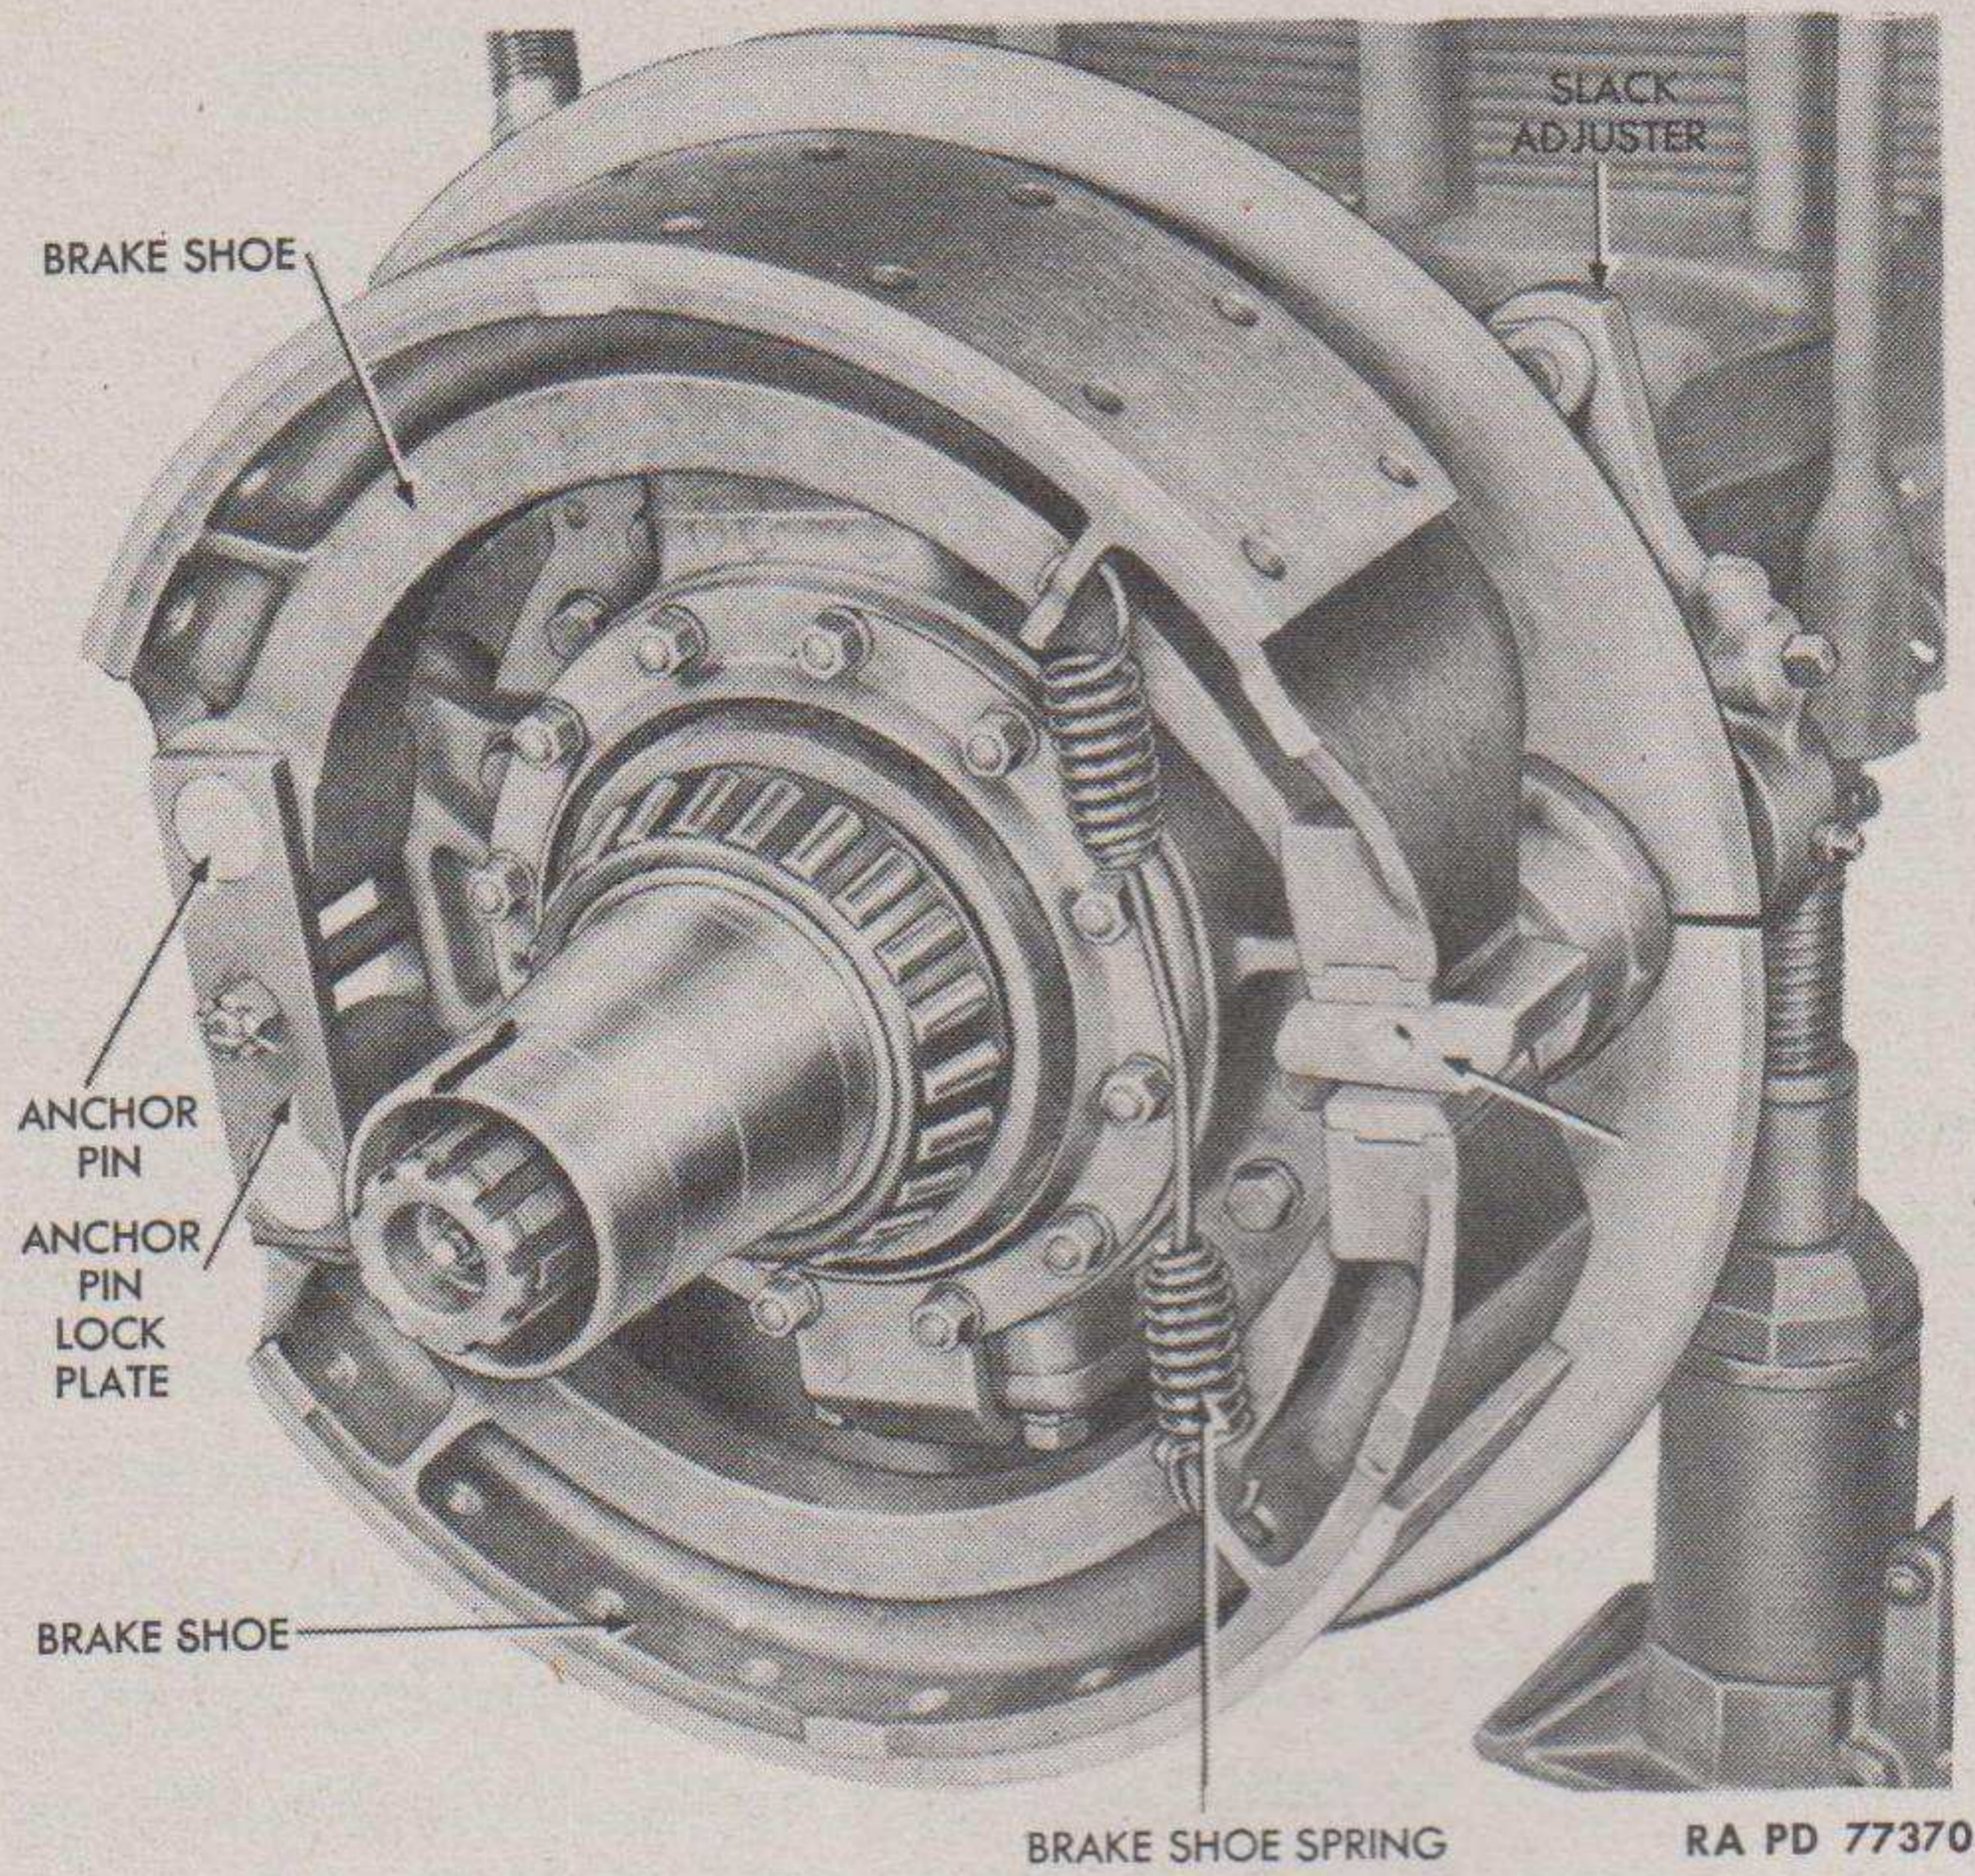

Figure 54 — Front Brake Shoes Installed
a. **Description** (figs. 54 and 55). Two brake shoes are attached to a backing plate inside each of the four brake drums, two anchor pins holding adjacent ends of the shoes in place. The opposite ends of the shoes are connected by a brake shoe spring. A cam is located between these ends, its function being to push the ends of the shoes apart when the brakes are applied, thus pressing the lining riveted to the shoes against the brake drums, creating braking action. The function of the spring is to pull the shoes away from the drums when the brakes are released. The front shoes differ slightly from the rear shoes because space limitations require a shorter lift on the operating cases; also, the front shoes are mounted on eccentric pins, which can be rotated to bring the shoes closer to the drum at the anchor pin end.